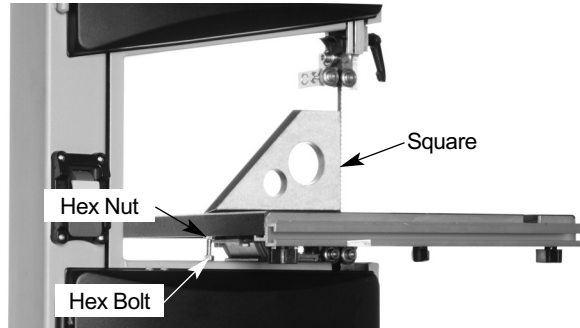

Figure 2 - Square table to saw blade.
Refer to Figures 2 and 3.
1. Using a wrench, release the hex nut on the bolt (see Figure 2). Place the wrench on the hex bolt and adjust until the table is square to the saw blade.